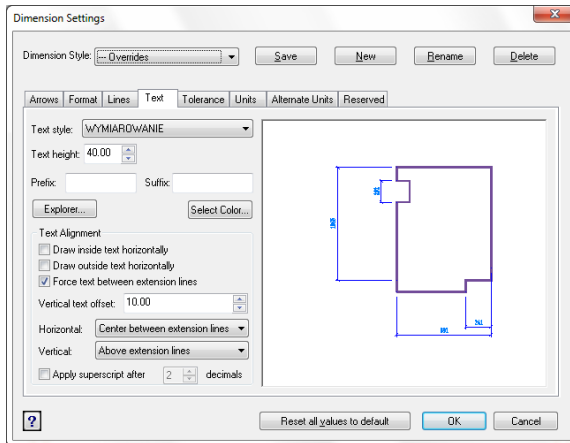

Fig. 52 – Dimensions Settings dialog box
**H — dimensions style** - double left-click to open the **Dimension Settings** window (Fig. 52) (available also at the icon  in the **Dimensioning** toolbar). It is possible to modify dimensioning arrows, formats, line types, texts, tolerances, units and alternative units, and to save new settings as a new profile.